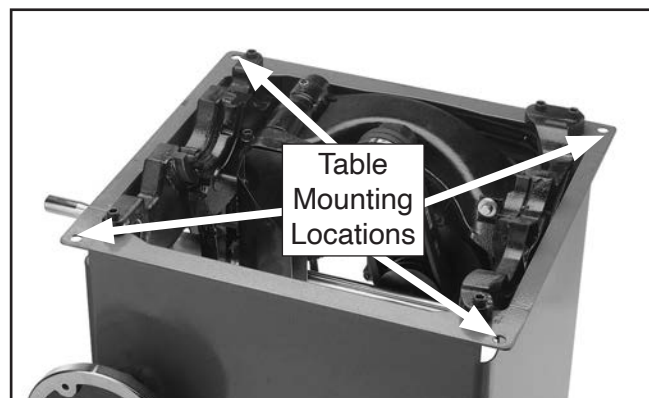

Figure 108. Table mounting bolt holes (table top removed for clarity).
7. To adjust table, loosen (4) bolts in table mounting locations (see **Figure 108**) and lightly tap table in direction needed to square table to blade. Repeat **Steps 3–6** until blade and miter slot are parallel. Do not forget to tighten table mounting bolts when finished.
2. Loosen four table mounting bolts (**Page 67, Figure 108**) and adjust table until blade does not contact insert. Tighten all mounting bolts.